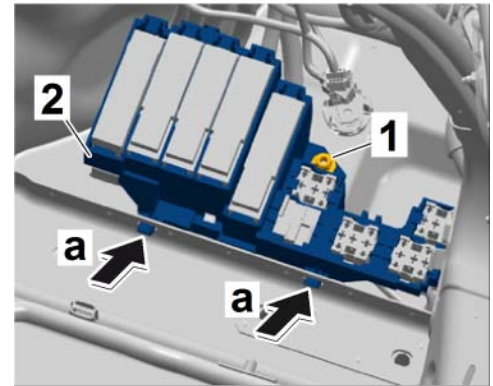

Figure 11
2.5.1 Install fuse box (luggage compartment) into the openings on the longitudinal member. ⇒ *Figure 11-a-*